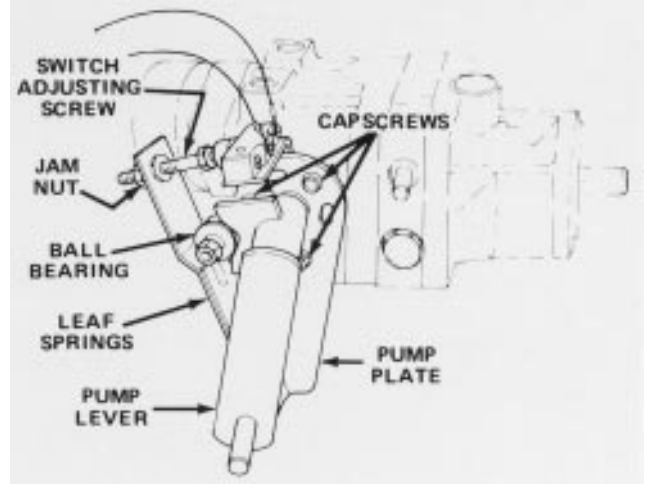

Figure 57
1. Park vehicle on a level surface and turn engine off. Apply the parking brake, tip seat forward, and actuate pump lever (Fig. 57) to insure assembly is properly seated and operating freely. Correct any discrepancy.
6. Because the wheel is rotating, the pump plate must be adjusted. But before adjusting the pump plate, move throttle to SLOW. If wheel is rotating forward, loosen capscrews, and lightly tap bottom of pump plate counterclockwise (Fig. 57). By contrast, tap pump plate clockwise if wheel is rotating backward (Fig. 57). When wheel stops rotating, tighten capscrews holding pump plate against side of transmission. Verify the adjustment with throttle in SLOW and FAST position.
- A. Ball bearing is loose or worn out (Fig. 57).
F. Weak or damaged leaf springs (Fig. 57).
2. Actuate the pump lever (Fig. 57) to insure all parts are operating freely and seated properly.
3. Loosen jam nut. Rotate switch adjusting screw (Fig. 57) until there is a gap between head of screw and switch button.